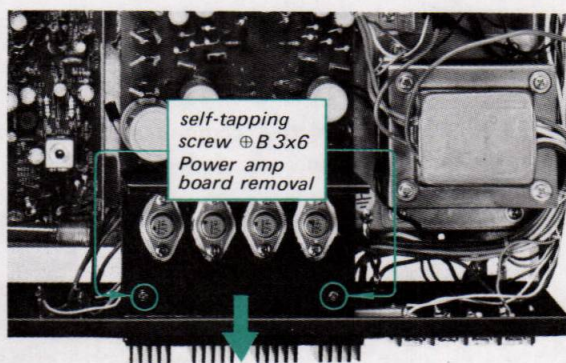

Fig. 2-19. Power amplifier board removal
2. Remove the two self-tapping screws securing heat sink bracket to the chassis as shown in Fig. 2-19. This frees power amplifier board.